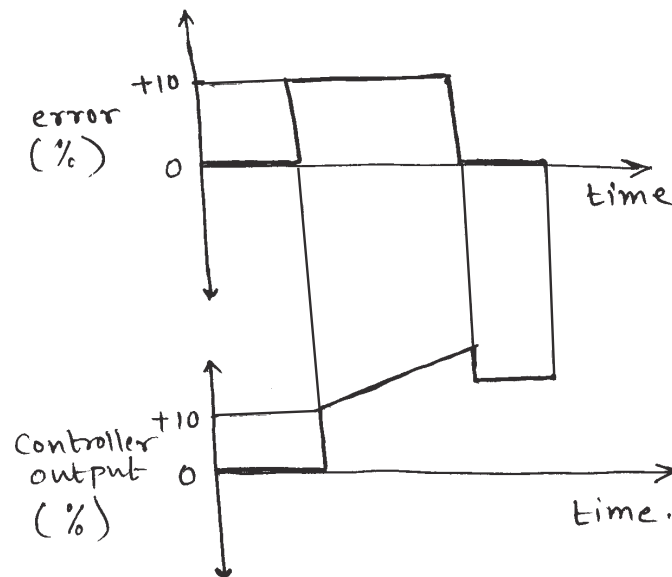

fig. 2.
**Q9) a)** A PI controller has a gain  $K_p = 2$  and an integral action rate  $K_i = 0.02 \text{ s}^{-1}$ . The initial output is assumed to be zero. The graph of the error signal is given in fig.2. Determine the value of the controller output at  $t = 70\text{s}$ . [6]